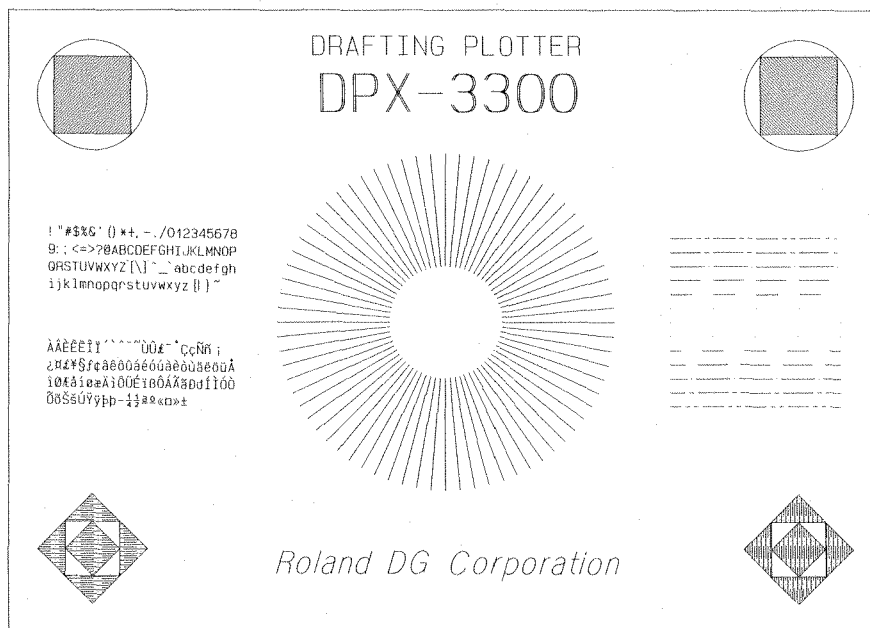

Fig. 2-15
- ⑤ Turn the power OFF temporarily.
- ⑥ While pressing the  key of the control panel, turn the power ON. Remember: The  key must be kept pressing until the "DOWN" LED ends flashing.
- ⑦ The DPX-3300 starts operating for the drawing of self test patterns. Make sure of the following points during and after drawing.
- 2) Drawing patterns appear as shown in Fig. 2-15 after the self test is completed.